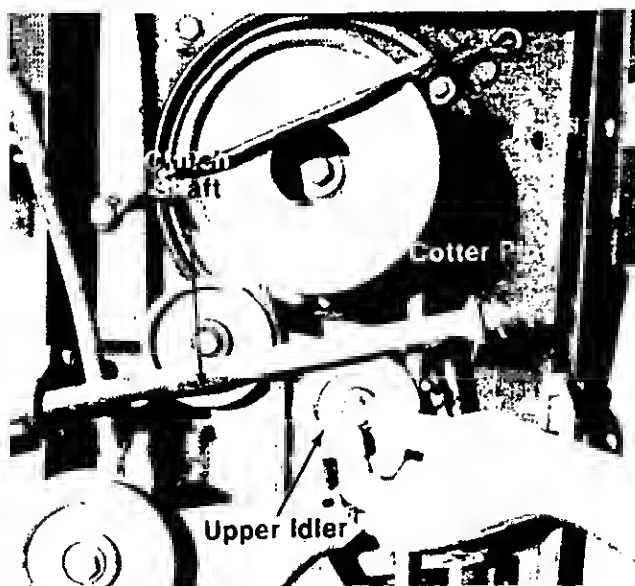

FIGURE 26.
7. Remove the cotter pin from the clutch shaft and pull it out of the bracket. See figure 26.